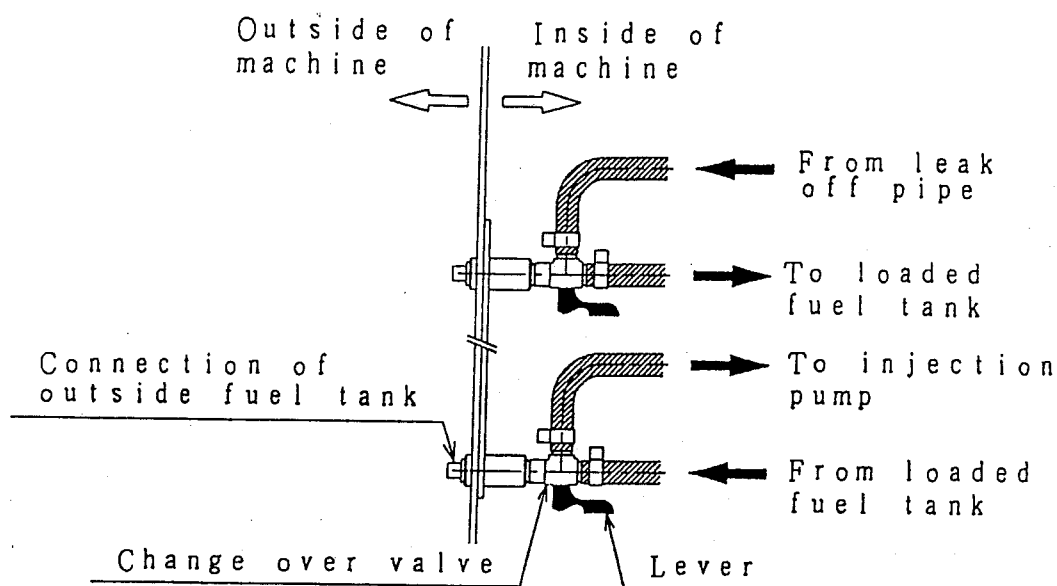
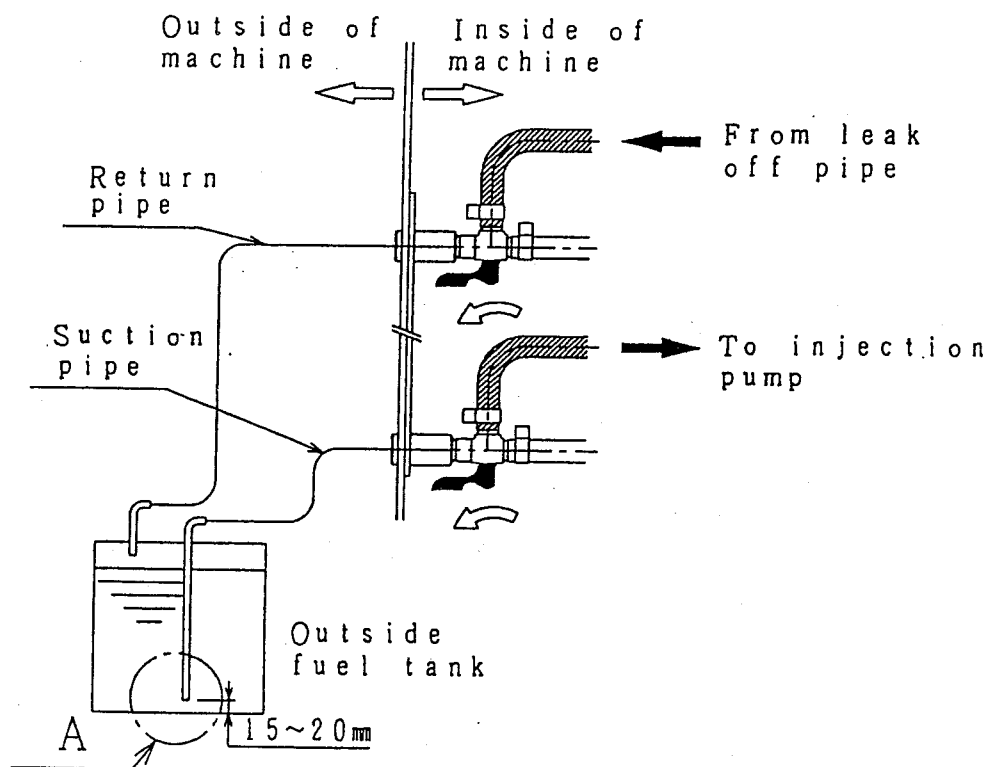
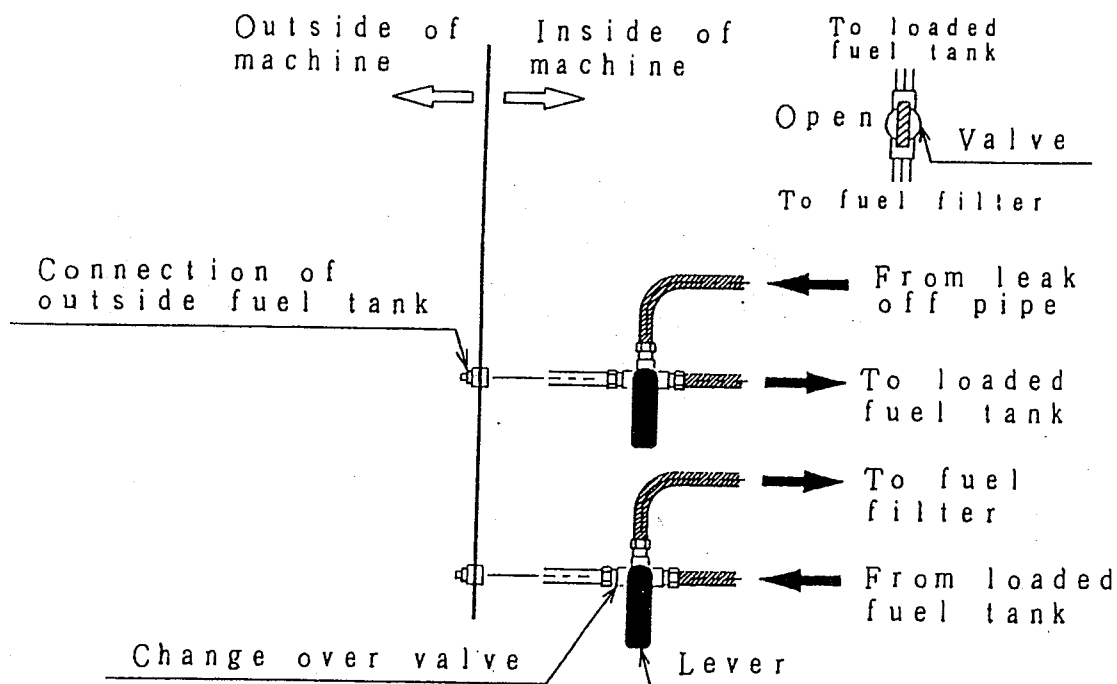

Fig.1 Use of loaded fuel tank
Fig.2 Use of outside fuel tank
Fig. 3 Use of loaded fuel tank
(3) Operating procedure
- ① The fuel piping and the change over valve lever are set as shown in Fig.1 (*1) before the machine is shipped. If the fuel is to be supplied from the machine loaded tank, operate the machine with their setting left as such.
- ② If the outside machine tank is to be used for fuel supply, remove the two plugs for connection of the outside machine tank and pipe it as illustrated in Fig.2 (*2), then turn the change over valve in the arrow indicated direction before operating the machine.
- ③ If the outside machine tank is not used with the piping removed from it, be sure to return the change over valve lever to the position as shown in Fig.1 (*1) and screw in the two plugs.
(3) Precaution in piping and operation
- ① For the piping, use an oil resistant pipe with an inside diameter of approximately 8 to 10 mm.
- ② Install the outside machine tank as near to the machine as possible and as the fuel level is within from 0 to +3m for the ground.
- ③ In piping the outside machine tank, leave the position of the change over valve lever as shown in Fig.1 until the piping is complete before turning it to the position as shown in Fig.2 (*1).
- ④ Set the suction pipe 15 to 20mm above the tank bottom to prevent it from drawing in water and/or foreign matter present in the tank. (See Section A in Fig.2 (*2).)
- ⑤ Take good care to avoid entry of water and or foreign matter into outside machine tank.
- ⑥ Improper handling of changing over the lever, it may cause to overflow the fuel from the fuel tank loaded on the machine or connection of outside fuel tank to the outside of the machine, operate the lever in accordance with the figure.
*1 In the case of DCA-25SPI-C, show the Fig.3.